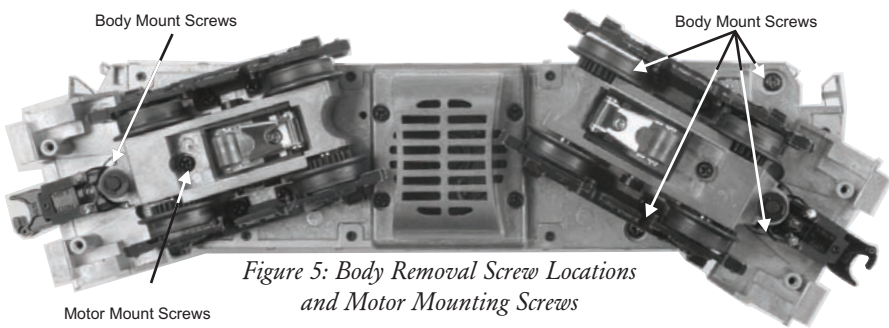

Figure 5: Body Removal Screw Locations and Motor Mounting Screws
1. Remove the Body Mounting Screws from the chassis, as seen in Figure 5, then lift the body away from the chassis.
2. Remove the truck blocks from the chassis by unscrewing the large Phillips motor mount screw on the bottom of each truck block, as shown in Figure 5.
First, remove the truck sides from the truck block by unscrewing the mounting screws as noted in Figure 5.